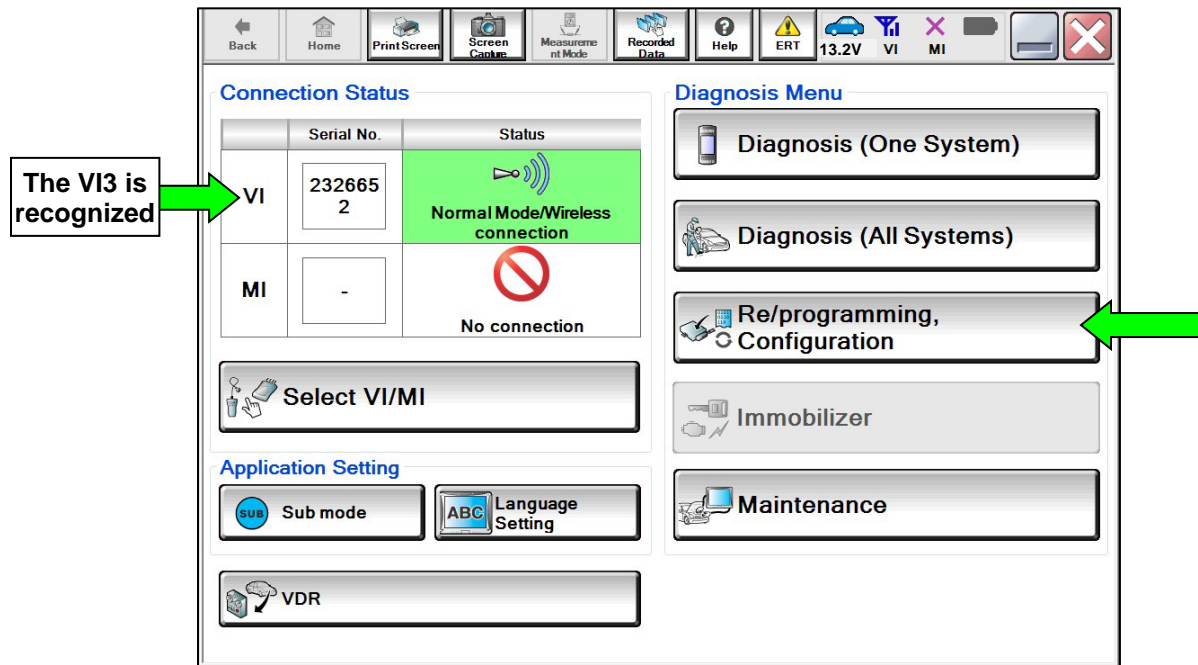

Figure 2
8. Wait for the VI3 to be recognized (Figure 2).